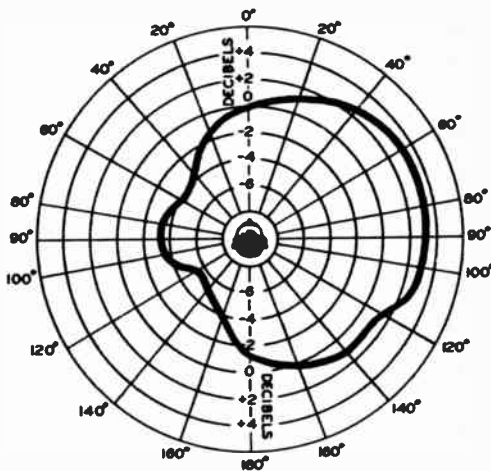

FIG. 2. Graph shows how each ear responds if sound of constant intensity is moved from front to back around the right side of listener's head, center.
If your amplifier doesn't have tape jacks, then you'll have to do another installation job. For both recording and reproduction, the circuit and procedure will be exactly the same as that just described and illustrated in Fig. 2(C) for the dual-function recorder. The only difference will be in the labeling and the functions. The jack shown on the drawing for the recorder as *hi-fi in* will become *tape in*, and that shown as *hi-fi out* will become *tape out*.
FIG. 2. Schematic of hook-ups for recording from hi-fi amplifier (A), playing back through hi-fi amp (B), and for recording or playing back through hi-fi system when amplifier-volume control chain is common to both functions (C).
These differences in time and phase between sounds striking each ear will give your ears the clues they need to enable them to estimate both the distance and direction of the sound source. You can get some idea of the ability of your ears to sense direction by referring to Fig. 2. This shows how each of your ears would respond if a sound of constant intensity were moved from front to back around the *right* side of your head.
Between these three peaks there are a couple of valleys, showing that the opposite ear is less sensitive to sounds arriving from the areas of 2 and 4 o'clock, or 50 and 130 degrees. If the sound were to arrive from the left side, the ears would simply exchange functions, and the curve of Fig. 2
As for the frequencies above 300 cps or so, there can be little doubt. The ear is very definitely quite sensitive to changes in direction of the source. Referring again to Fig. 2, the sound intensity as perceived by the near ear varies as much as 4 decibels. This is an audio power ratio of  $2\frac{1}{2}$  to 1. The response of the far ear will vary with direction by as much as 6 db, which is a power ratio of 4 to 1.